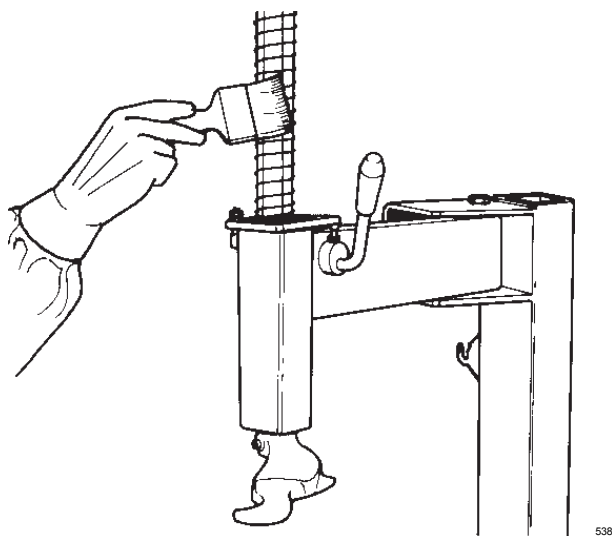

Fig. 5-5
A. Periodically clean the vertical hexagonal rod with liquid detergent. After this immediately lubricate with a light lubricating oil (Fig. 5-5).